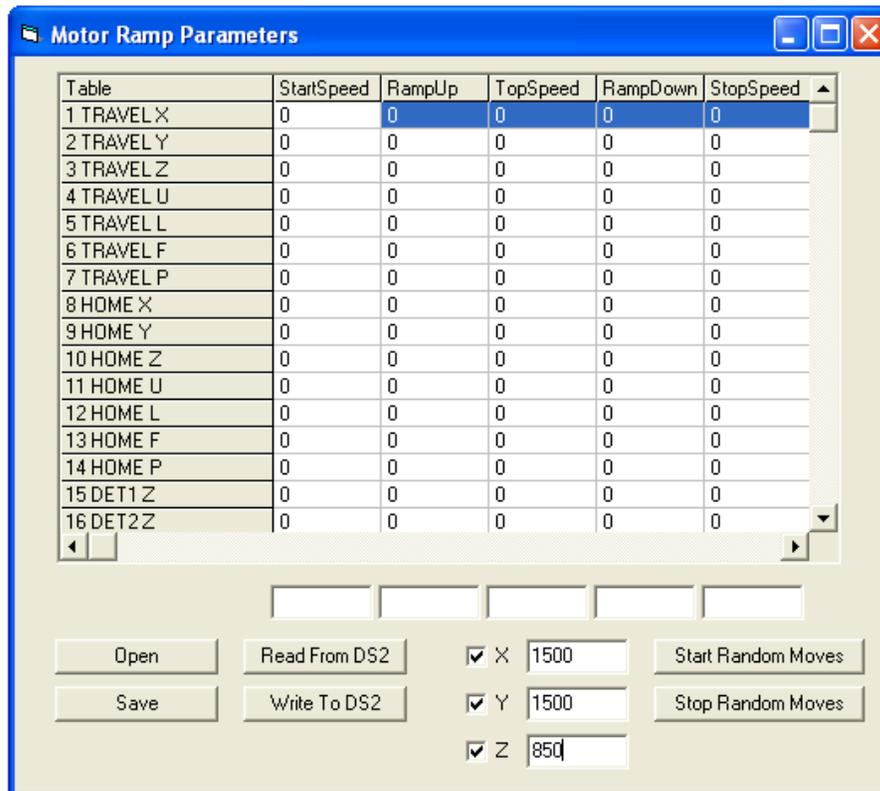

Figure 5-82: Motor Ramp Parameters Dialog Box
1. Select *Calibrate/System/Motor Ramps* to present the *Motor Ramp Parameters* dialog box (Figure 5-82).